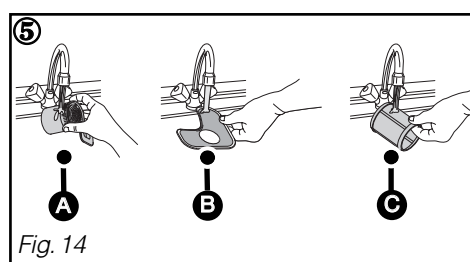

Fig. 14
- ② Loosen the waste filter a quarter of a turn and then remove it **A**
- ③ Remove the main filter **B**
- ④ Remove the micro filter **C**
- ⑤ Carefully clean filters **A**, **B** and **C** under running water (Fig. 14)